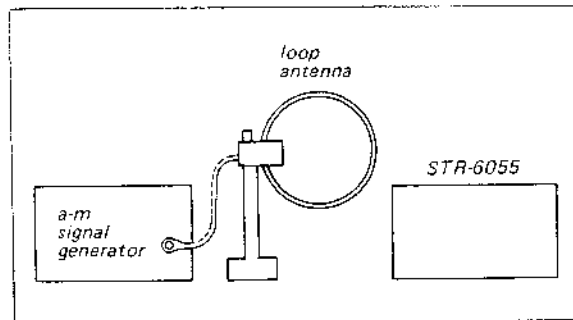

Fig. 3-15. Tuning meter calibration test setup
1. Connect the test equipment as shown in Fig. 3-15.